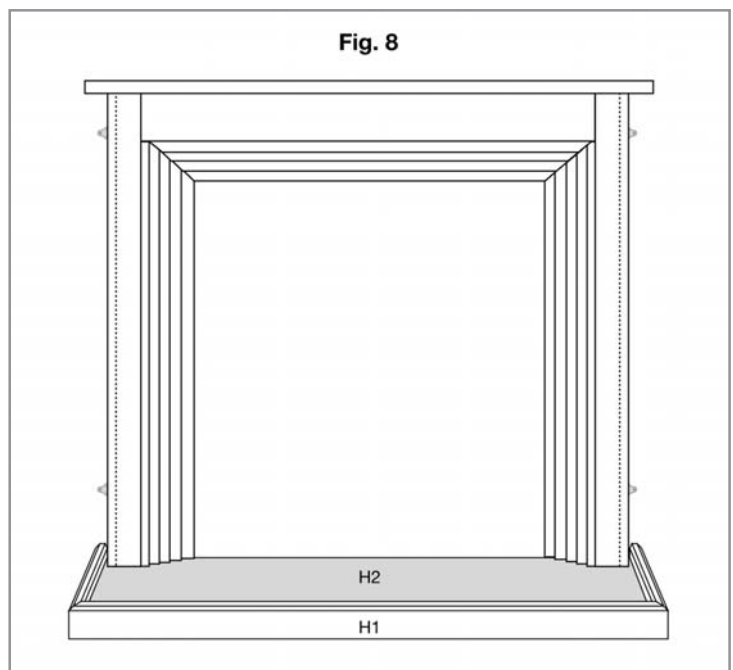

Fig. 8
Step 8: (see Fig 8)
Stand the mantle on the hearth H1 and H2 (with laminate fitted, see Step 9). Ensure the Hearth and mantle are straight and aligned, mark positions of holes in mirror plates, and drill holes with 6mm masonry bit, and plug with wall plugs supplied. Fix mantle and hearth to wall using 4 off 30mm pan head screws ensuring mantle and hearth are tight against the wall and aligned as in Fig 8.